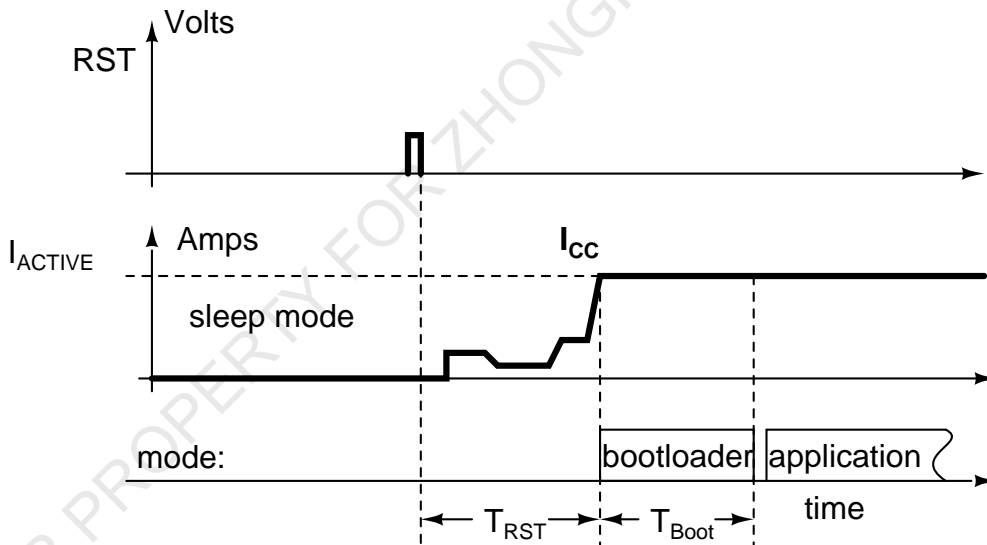

Figure 34: Power on sequence-3 (reset controlled by Host MCU when in sleep)
2. Reset while the Tango C is in sleep mode, shown in figure 34.